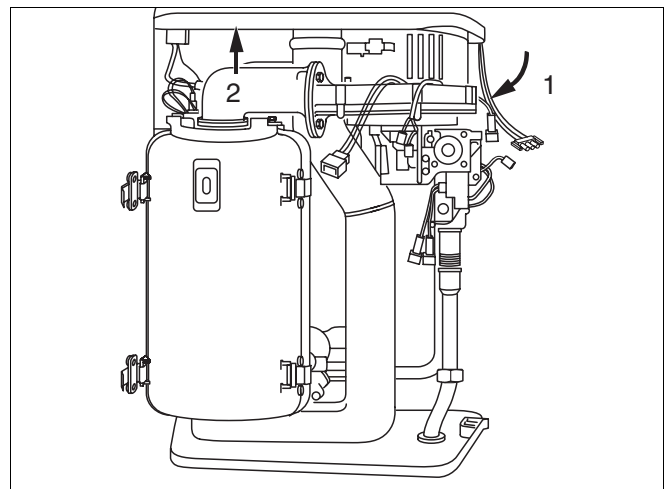

Fig. 28 Remove the air combination unit
- Swivel the air combination unit forward (fig. 28, item 1).
- Pull the air combination unit up and out of bayonet connector (fig. 28, item 2) and remove via front of unit.
- Swivel the air combination unit forward (fig. 28, item 1, page 27).
- Pull the air combination unit up and out of bayonet connector (fig. 28, item 2, page 27) and remove via front of unit.